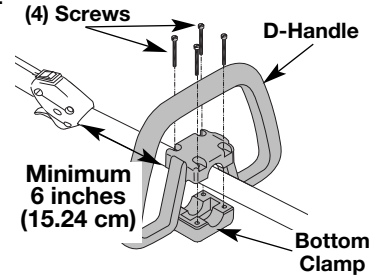

Fig. 1
- Place the D-handle over the shaft housing and onto the bottom clamp (Fig. 1). Place it a minimum of 15.24 cm (6 in) from the end of the shaft grip.